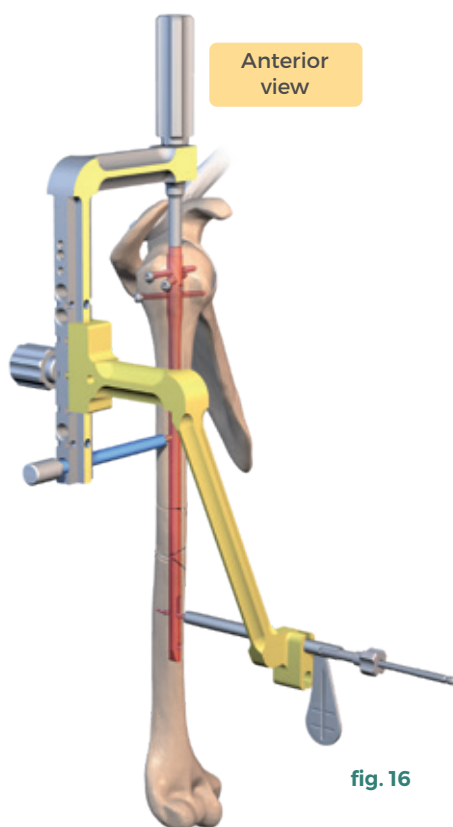

fig. 16
• Bicortical drilling with the D3.1 mm bit (**ref. 270 821**) (**fig.16**) and read the screw length directly on the drill bit.